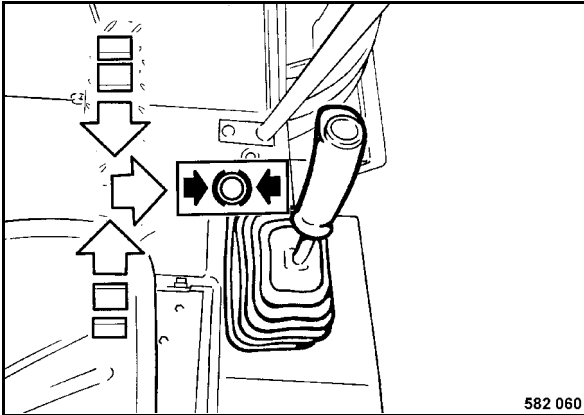

Fig. 38
- Return the travel lever (Fig. 38) slowly to "neutral"-position and engage it to the right parking brake position.